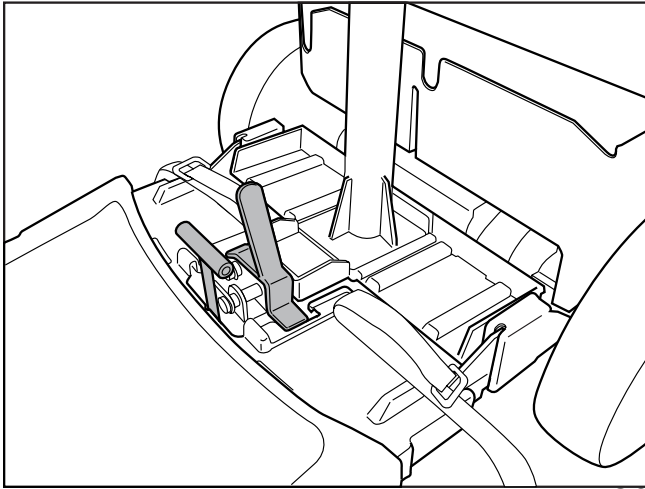

Fig. 20
**8.** Locate the Red "T" Handle and Latch on frame assembly. (Fig. 20)